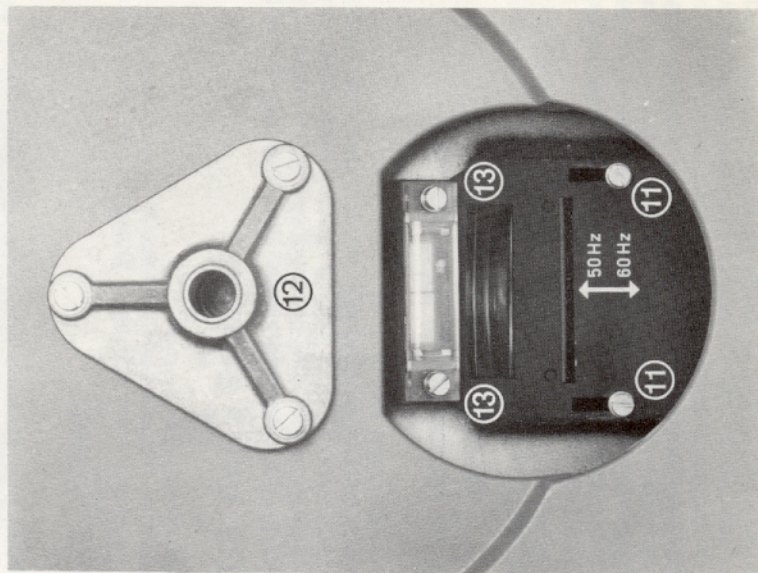

Fig. 7
The neon bulb is then accessible, located under a cylindrical lens at the upper edge of the black stroboscope plate. Fig. 7. After unscrewing both screws left and right beneath the lens ③, the lens can be removed and the neon bulb replaced.